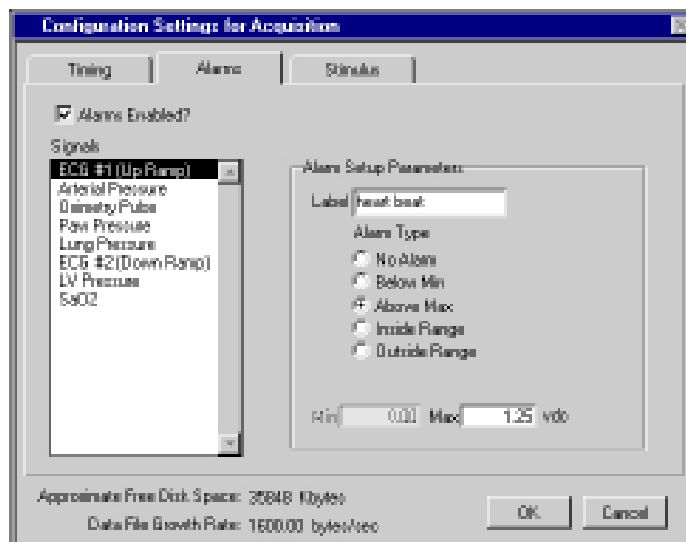

Figure B-11. Setting Alarms in the Configuration Settings for Acquisition Dialog Box
2. Enable alarms by selecting the Alarms Enabled? checkbox, as shown in Figure B-11.
3. Highlight the ECG signal as shown in Figure B-11. The ECG monitor in this example provides a –5 to 5 VDC analog signal. Because the QRS complex for this lead configuration yields a positive deflection, DataLab 2000 detects a heart beat when the waveform exceeds 1.25 VDC. Set the Alarm Type to Above Max. Enter a Max value of 1.25 in the Max text box. Give the alarm a label by typing heart beat into the Label text box.